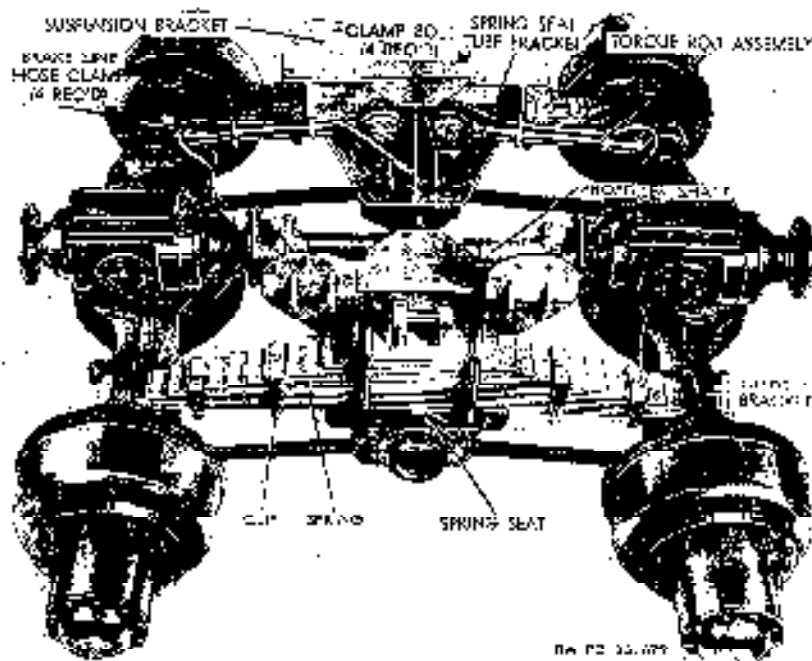
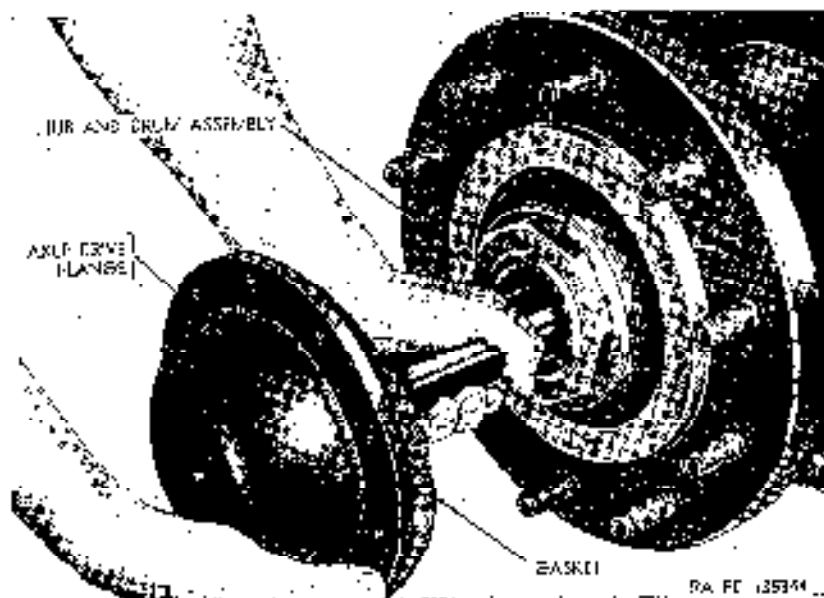

Figure 228. Rear suspension system.
Figure 229. Removing axle shafts.
- (3) *Connect propeller shaft* (fig. 228). Connect adapter flange on front end of transfer-to-front-axle propeller shaft to companion flange at rear of front axle differential. Refer to paragraph 211.
a. Description. Two identical rear axle assemblies, mounted in tandem, are included in the rear suspension system (fig. 228). The rear axle assembly is a hypoid, double reduction, single-speed type. Three identical torque rod assemblies, two at the right end of the axle and one at the left end of the axle, connect each rear axle assembly to the rear suspension brackets. These torque rods not only maintain the correct relative positions of the rear axle assemblies, but also transmit driving and braking forces from the axles to the frame. A differential and carrier assembly, mounted at the top center of the axle housing, transmits power from the transfer-to-forward-rear axle and forward-rear-axle to-rear-rear-axle propeller shafts (fig. 913) to the left and right drive shafts inside the axle housings.
b. *Removal.* Remove 10 cap screws and lockwashers securing axle drive flange (fig. 229) to hub and drum assembly. Withdraw shaft from hub by pulling on axle drive flange. Remove and discard flange gasket.
- (8) *Position hydraulic jack.* Position hydraulic jack (fig. 229) with axle fixture under the forward rear axle (fig. 234). Raise axle on hydraulic jack enough to release front ends of rear springs (fig. 228) in spring guide brackets, and roll axle on hydraulic jack toward front of truck.
- (1) *Position axle assembly.* With forward rear axle supported by hydraulic jack in lowered position (fig. 235), push jack and axle assembly under side of truck. Raise axle on jack until front ends of rear springs (fig. 228) are aligned with spring guide brackets on top of axle housing, and push axle toward rear of truck so that spring ends enter guide brackets.